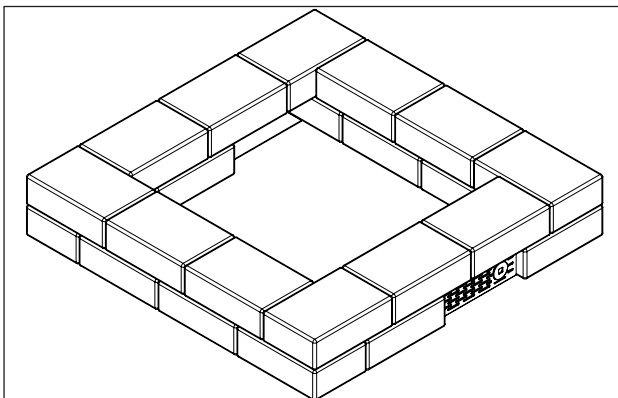

Figure 8: Brick layout
5. Put second layer on top by following the pattern as shown in Figure 8.